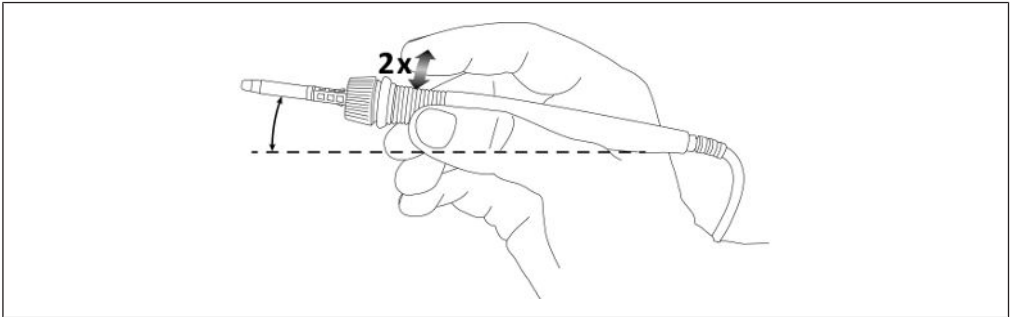

Fig. 23: Double tap the soldering iron
- a) Carefully pry open the fuse compartment under the mains connection using, for example, a flat-blade screwdriver (see Fig. 23).